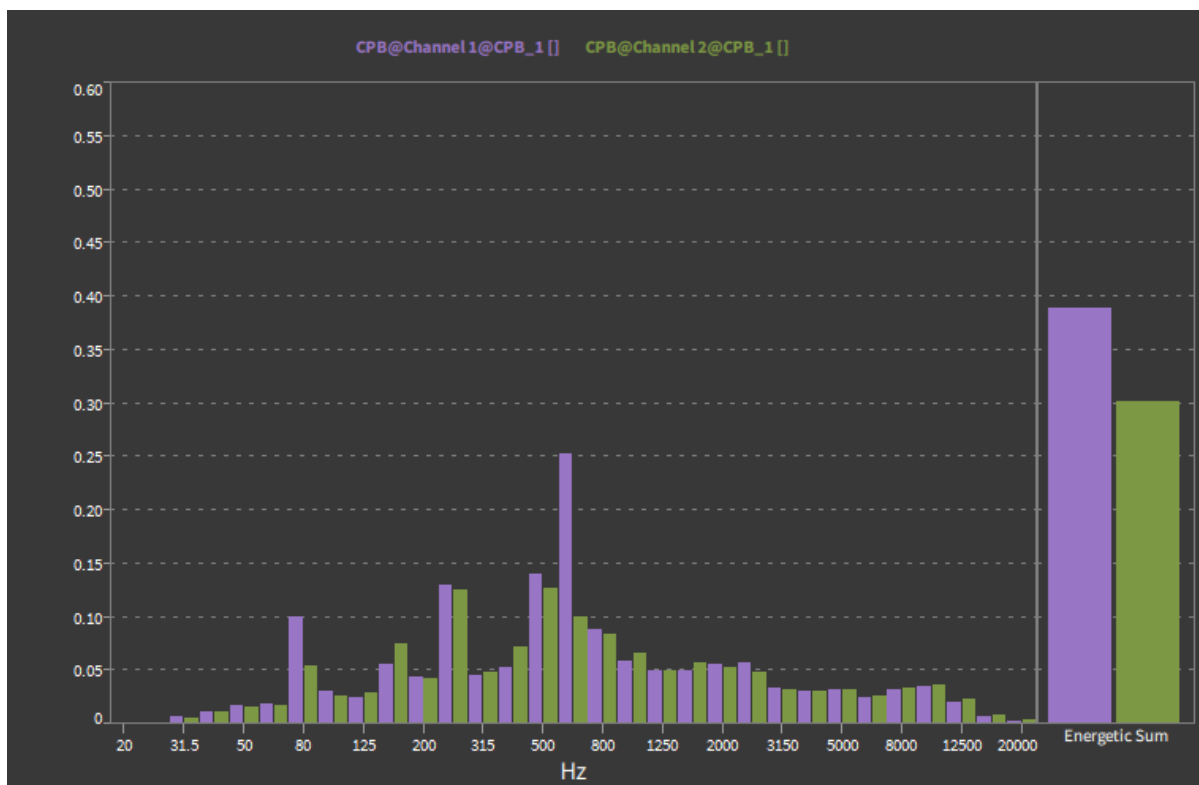

Fig. 8.109: Array Chart with *Total* column included
- **Total Computation:** It is possible to include a *Total* column (see Fig. 8.109) on the right hand side that display the following value: